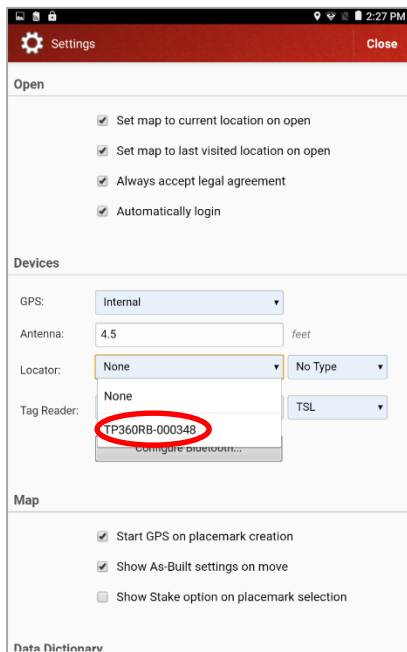

Figure 5
5. Under Devices, pull down the list of **Locators** and select the laser (Figure 5)